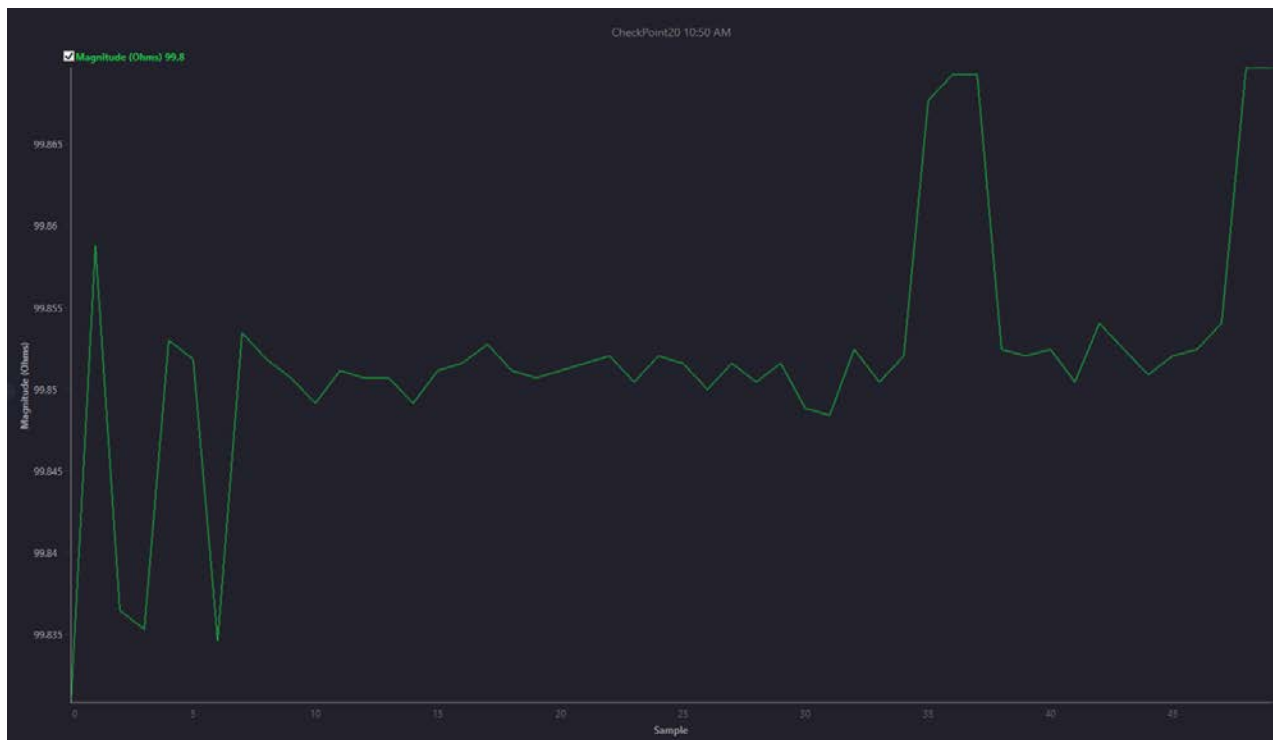

Figure 16. Quick Test Body Impedance Result
10. The resulting graph looks similar to the one in Figure 16, with the impedance measurements very close to 100 Ω .